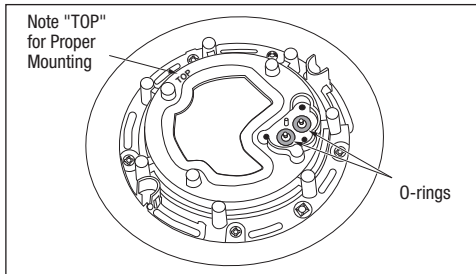
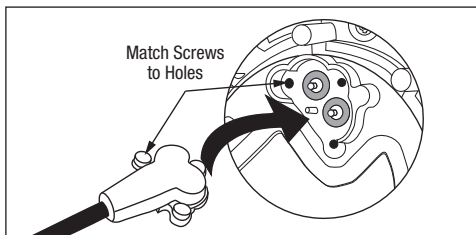

Figure 1. SLX for Concrete - Back of Light Engine
Figure 2. Plug and Socket Alignment
3. Remove the light engine from its packaging. Insert the two O-Rings (from kit P/N 20350) into the grooves on the back of the light and double-check that they are positioned correctly, as shown in *Figure 1* and *Figure 2*.
4. Align the plug with the socket on the light and use the three screws (from kit P/N 20350) to attach the plug securely to the light. Tighten these screws firmly by hand only; do not use a power tool. See *Figure 2*.
NOTE: Plug and socket can only be engaged in one position as depicted. Before applying any force to the plug and socket, check both parts are aligned as shown in *Figure 2*.
6. Locate the "TOP" marking on the rear of the light. See *Figure 1*.